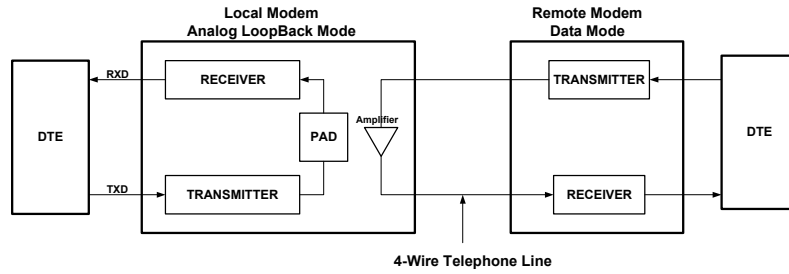

Figure 3-1. Analog Loopback Test
- ❖ **AL** (Analog Loopback) — this position prepares the modem for testing by the local terminal device. The transmitter output of the modem is disconnected from the output coupling transformer and connected to the modem receiver input. See Figure 3-1.